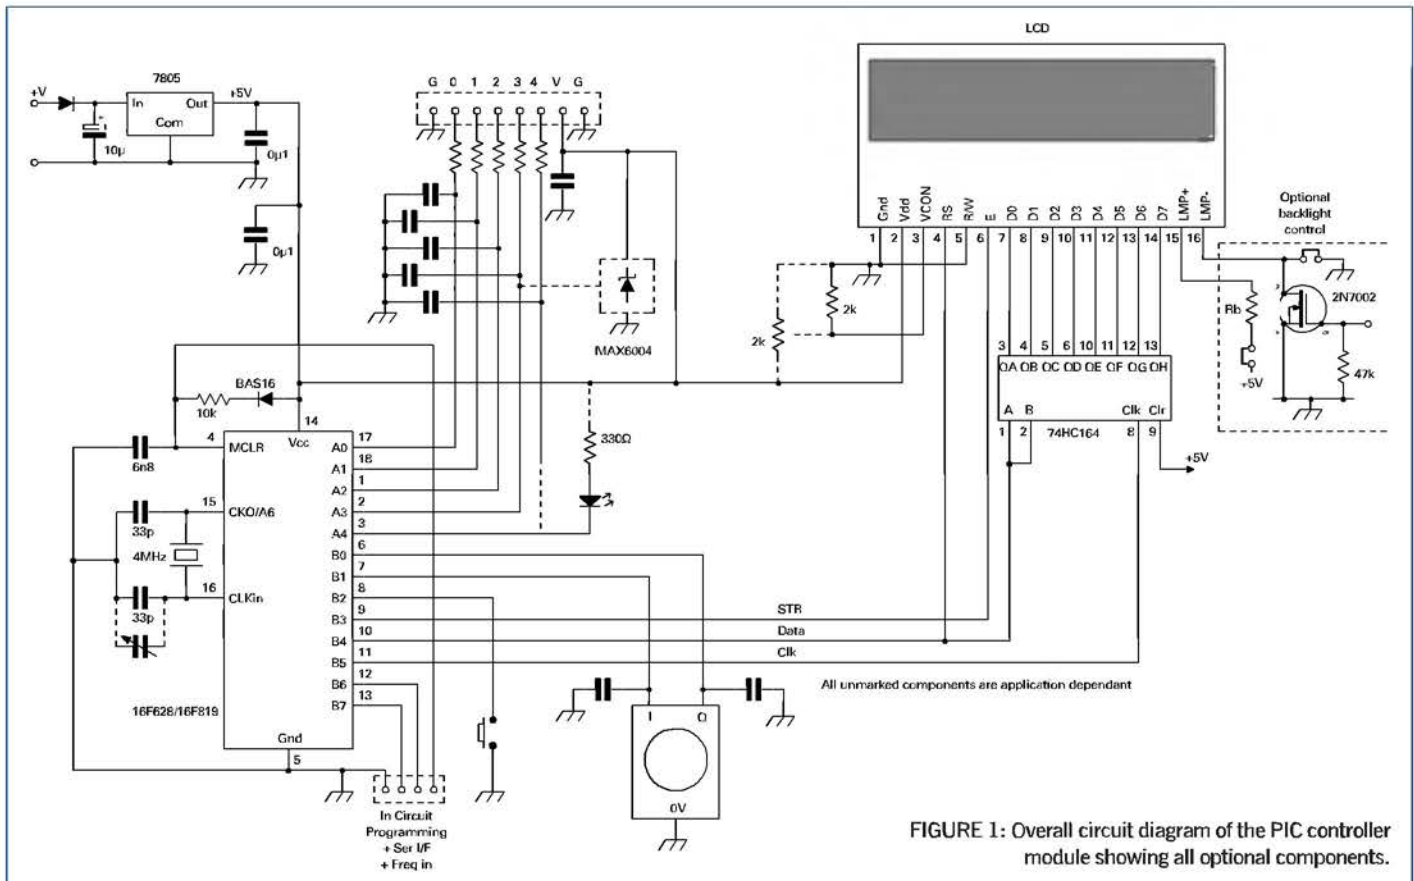

FIGURE 1: Overall circuit diagram of the PIC controller module showing all optional components.
**CIRCUIT DESCRIPTION.** The full circuit diagram is shown in Figure 1, which includes all the options mentioned above. Note the LCD module interface, which needs 8 parallel data lines for sending it the text to display, as well as a register select pin and a strobe signal. The ten interface connections would use up most of the PICs I/O capacity so a 74HC164 shift register is used to allow the PIC to output the data serially on two lines. The shift register converts the serial data from the PIC, in conjunction with the Clock, into 8 parallel outputs, with the ninth bit of data, the register select, remaining on the Data line after clocking in the 8 bits. A third Strobe signal from the PIC latches the information into the LCD module.